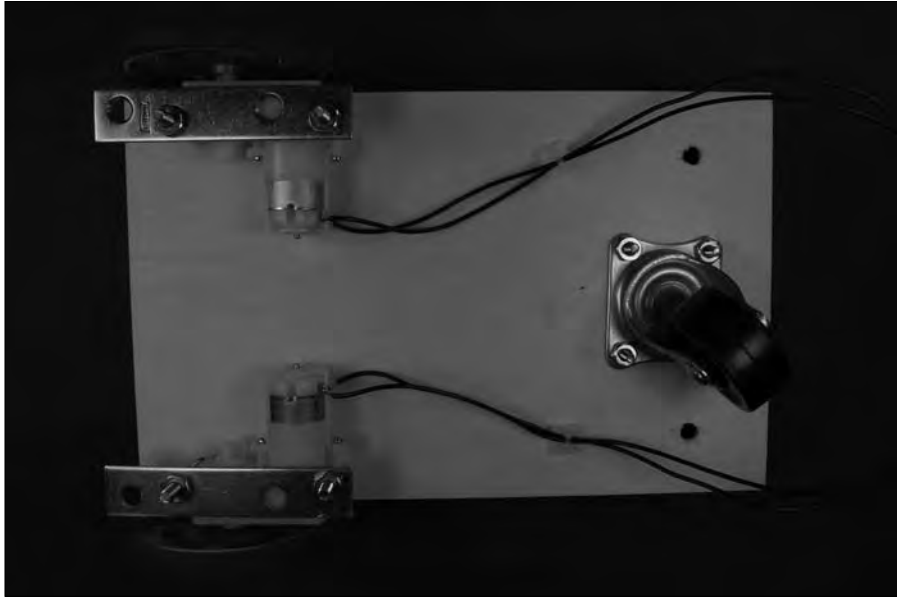

Figure 13-30:
5. Attach the castor to the box with four 6-32 screws and nuts, as shown in Figure 13-30.
6. Attach the motors to the box with two 8-32 screws and nuts and one mending brace for each motor, as shown in Figures 13-30 and 13-31.